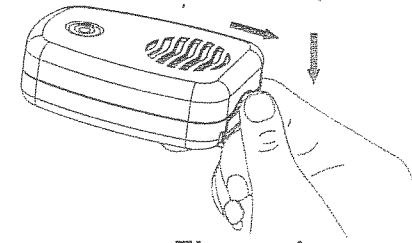

Figure 1
1. Remove the battery door on the back of the sensor, as shown in **Figure 1**.